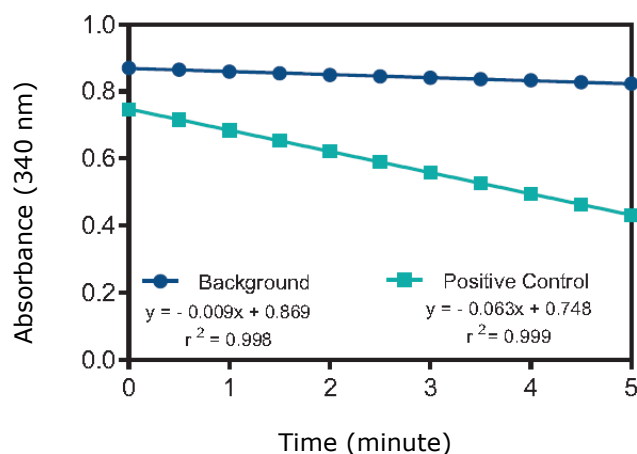

Figure 1: Activity of Bovine Erythrocyte Glutathione Peroxidase
- Plotting the absorbance values as a function of time to obtain the slope (rate) of the linear portion of the curve (Refer to Figure 1).